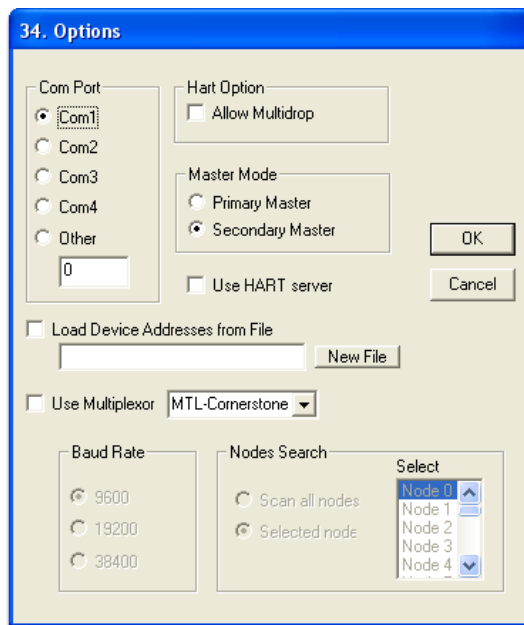

Figure 56 ValVue Options
6. Select **Tools > Set Options** and Figure 56 appears to set ValVue options. Set the COM port to the serial output connection attached to your PC modem. Checking **Allow Multidrop** slows down the search for active devices on single drop current loops and is recommended only for split range and multiplexor applications.